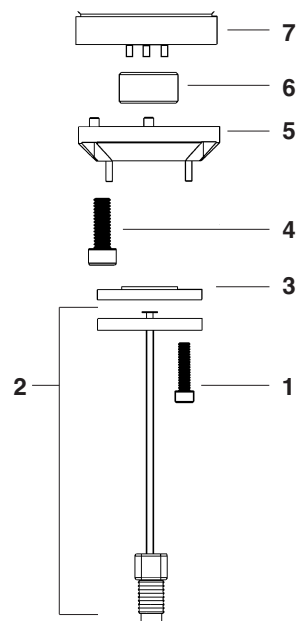
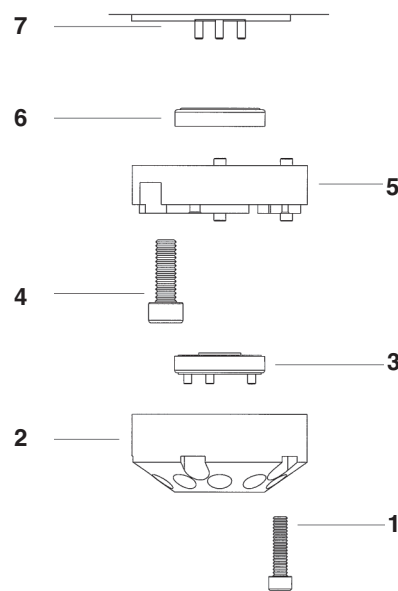

Fig. 11. Exploded view of valves with a Cap Assembly.
Fig. 12. Exploded view of a typical valve.
(1) To disassemble valves that have a Cap Assembly refer to Figure 11 and proceed as follows:
- (a) With the Hex Key provided, remove the Stator Screws (1) from the Stator (3).
- (b) Remove the Cap Assembly (2) and the Stator (3) from the two pins on the Stator Ring (5).
- (c) Remove the three Hex Screws (4) in the Stator Ring (5).
- (d) Remove the Stator Ring (5) and the Rotor Seal (6) from the Body (7). The Rotor Seal (6) is mounted on three pins, and can be pulled off.
(2) To disassemble all other valves refer to Figures 12 and 13 and proceed as follows:
- (a) With the Hex Key provided, remove the Stator Screws (1) from the Stator (2).
- (b) Remove the Stator (2) and Stator Face Assembly (3) from the Stator Ring (5). The Stator Face Assembly (3) usually remains on the Stator.
- (c) If the Stator Ring (5) has Hex Screws (4), remove them using the Hex Key.
- (d) Remove the Stator Ring (5).
- (e) Remove the Rotor Seal (6) from the valve Body (7). The Rotor Seal (6) is mounted on three pins, and can be pulled off.
- (1) To reassemble valves that have a Cap Assembly refer to Figure 11 and proceed as follows:
- (a) Mount the new Rotor Seal (6) onto the pins with the slot facing the Stator (3). The three pins on the Shaft Assembly fit into the mating holes in the Rotor Seal only one way.
- (b) Replace the Stator Ring (5) so the two short pins on the ring enter the mating holes in the Body (7).
- (c) Replace and tighten the three Hex Screws (4) into the Stator Ring (5). Tighten each an equal amount until the Screws are fingertight, then turn another half turn.
- (d) Mount the new Stator (3) onto the two pins on the Stator Ring (5). The three holes in the Stator must line up with the three holes in the Stator Ring.
- (e) Mount the new Cap Assembly (2) onto the two pins coming through the Stator (3). The three holes in the Cap Assembly must line up with the three holes in the Stator.
- (f) Replace the three small Hex Screws (1) into the Cap Assembly (2). Tighten each an equal amount until the screws are fingertight, then turn another half turn.
- (2) To reassemble all other valves refer to Figures 12 and 13 and proceed as follows:
- (a) Mount the new Rotor Seal (6) with the slots facing the Stator (2). The three pins (8) on the Shaft Assembly fit into the mating holes (9) in the Rotor Seal only one way.
- (c) Replace and tighten the three Stator Ring Screws (4) if applicable. Tighten each an equal amount until the Screws are fingertight, then turn another half turn.
- (d) Mount the new Stator Face Assembly (3) onto the Stator (2). Procedures vary depending on the model of the valve. See the instructions for various models below.
- (e) Replace the Stator (2) and Stator Face Assembly (3) on the valve so that the pin in the Stator Ring (5) enters the mating hole in the Stator.
- (f) Replace the Stator Screws (1) into the Stator (2). Tighten each an equal amount until the screws are fingertight, then turn another half turn.